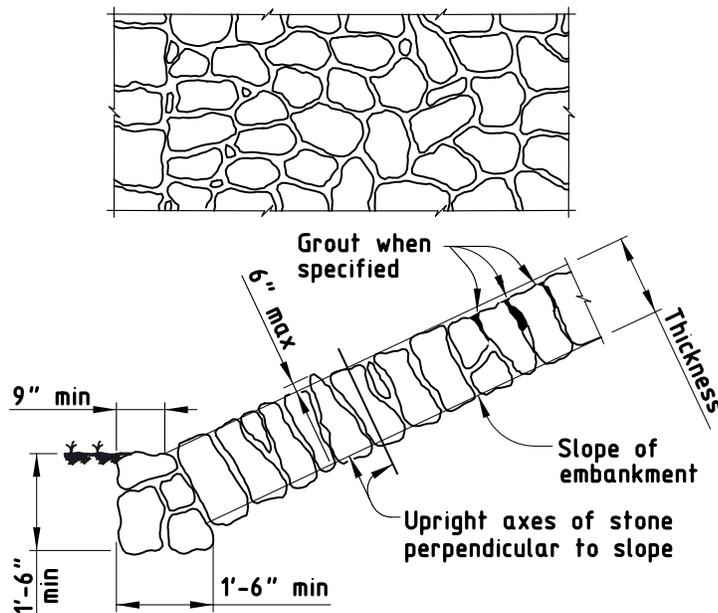

Figure 1
- 1. Type R.** Construct riprap as shown in Figure 1 and as shown on the plans. Place stones in a single layer with close joints so that most of their weight is carried by the earth and not by the adjacent stones. Place the upright axis of the stones at an angle of approximately 90° to the embankment slope. Place each course from the bottom of the embankment upward with the larger stones in the lower courses.